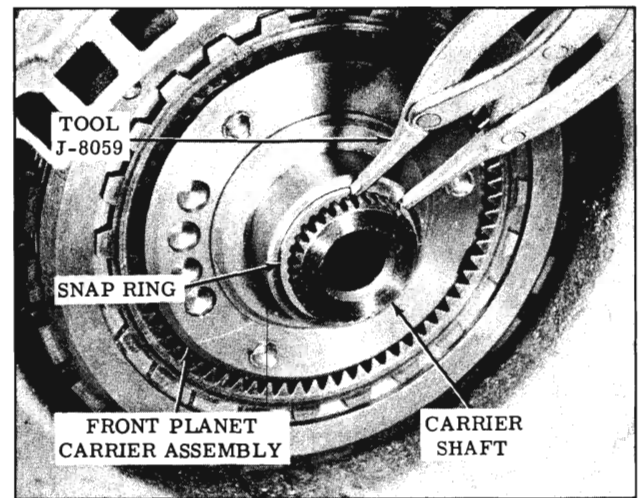

Fig. 3-245 Rear Carrier Snap Ring
46. Remove front carrier to rear carrier shaft snap ring. (Fig. 3-245)